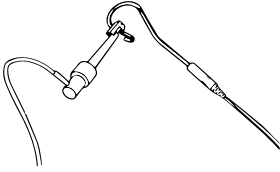

Fig. 1
3. Connect the file clip to the lip hook. (Fig. 1)